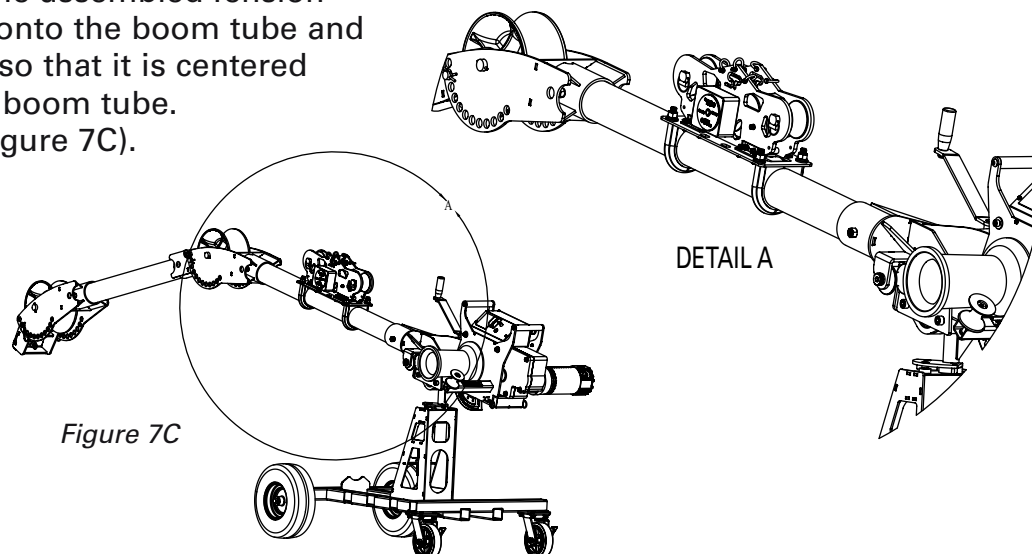

Figure 7C
4. Slide the assembled Tension Meter onto the boom tube and adjust so that it is centered on the boom tube. (See Figure 7C).